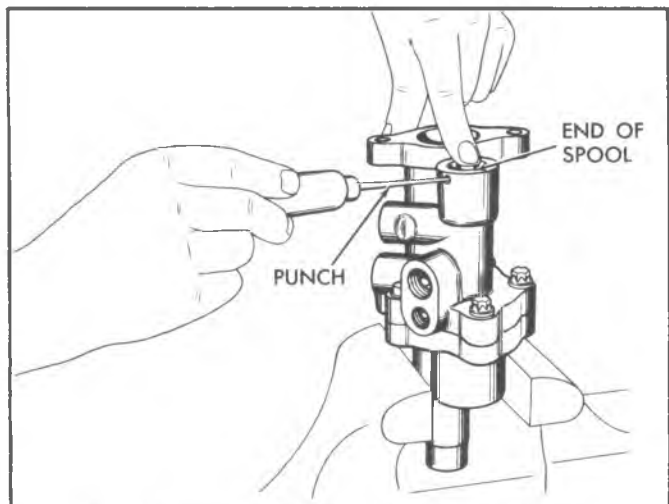

Fig. 7-Removing Spool Plug from Booster (Typical)
8. Press in on spool plug, and insert a small punch into the hole on top of the housing (fig. 7). This unseats one side of the spool plug snap ring from its groove in the bore. Then remove the snap ring from the bore.